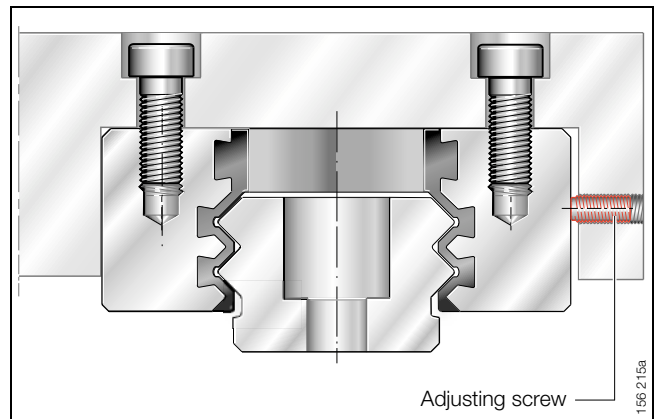

Figure 3 · Setting the bearing clearance – using an adjustment screw
- by means of a screw in the adjacent construction (Figure 3) or